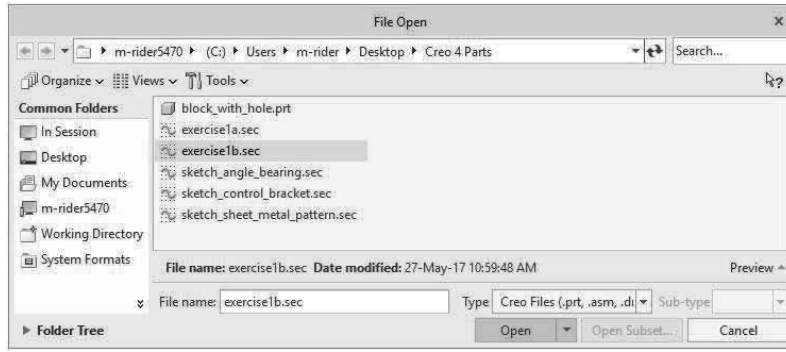

Figure 3-61 Open “exercise1b.sec”
**Step 26:** Locate “exercise1b.sec” in your working directory. *Pick* the **Open** button as shown in Figure 3-61.